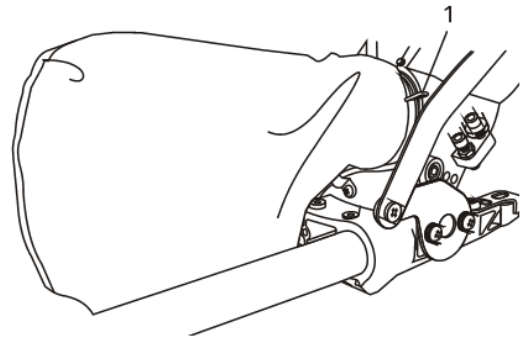

Fig. 28
1. To remove the dust bag, squeeze the two wire clamp wings (1) together and slide the dust bag off the dust chute (Fig. 28).